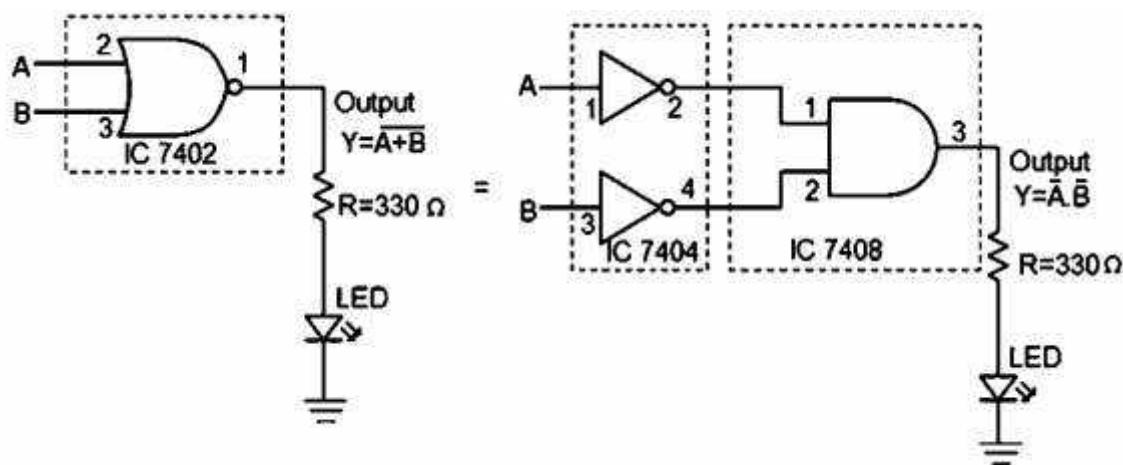

Fig 5.1: De Morgan's first theorem
3. Make the connection as per fig 5.1 for LHS as well as RHS side and give supply voltage to the relevant pin as per logic level.